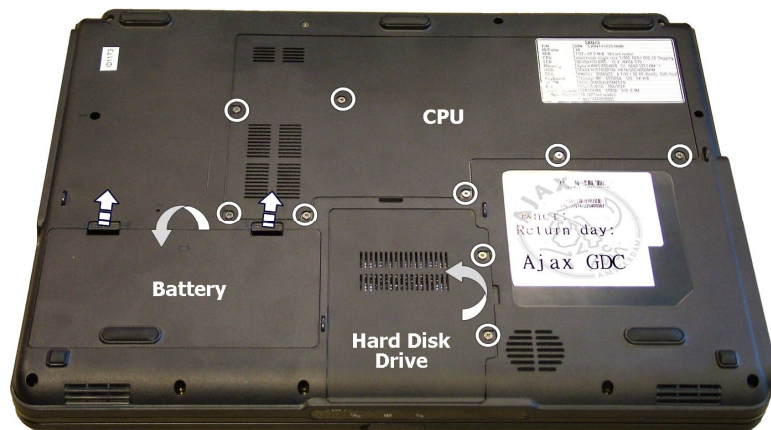

Fig. 1 Removing battery.
1. Remove the 2 screws on the hard disk drive cover and remove the cover (see Fig. 1).
- Remove the 7 screws retaining the CPU cover (see Fig. 1).
1. Remove the 7 screws retaining the CPU cover (see Fig. 1).